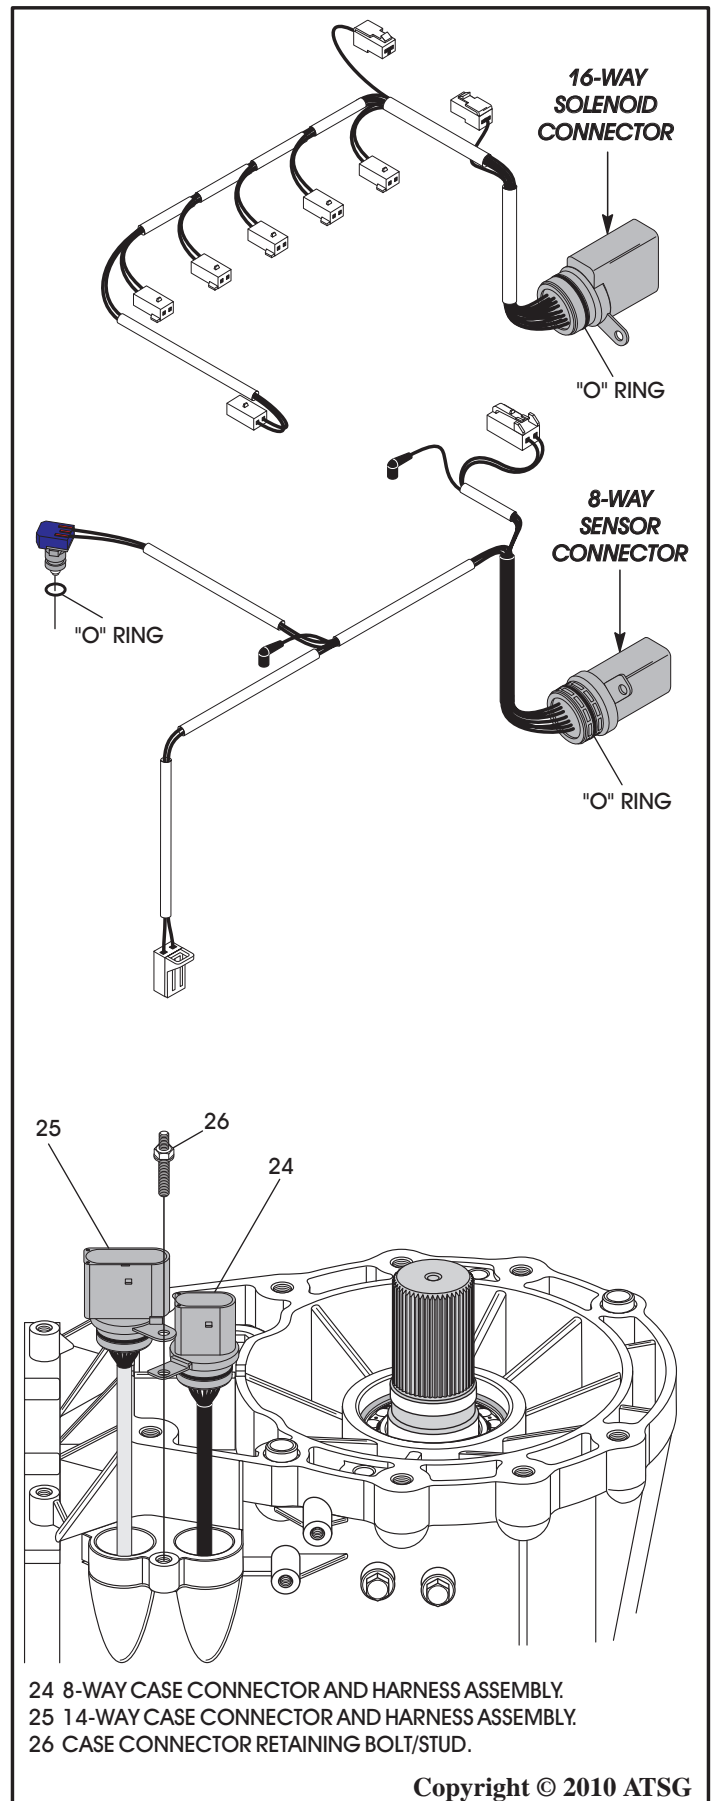

Figure 48
21. Remove the pass-thru case connector retaining bolt, as shown in Figure 48.
22. Remove both pass-thru case connector and wire harness assemblies, as shown in Figure 48, and remove and discard the 3 "O" ring seals.